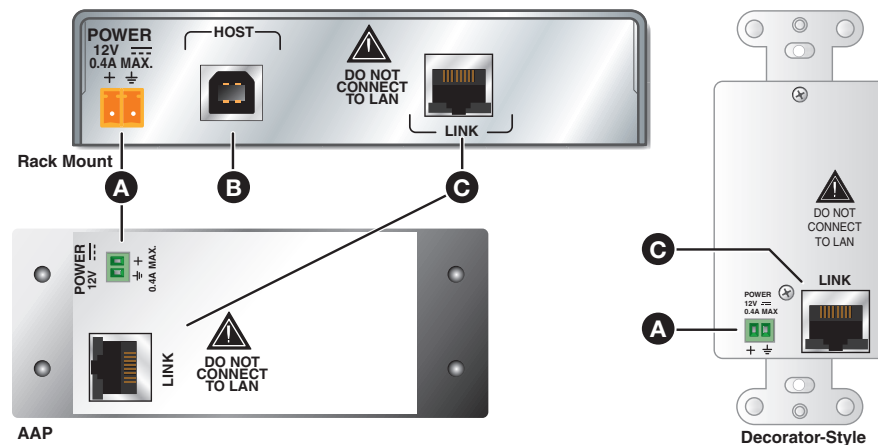

Figure 3. Transmitter (Tx) Rear Panel Connectors
- E Link (twisted pair) connector** — Connect the TP cable from the transmitter Link connector (figure 3, **C**) to this RJ-45 female connector.